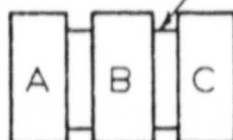

Figure 1
- a) Assume Selector "B" is to be removed. See Fig. 1.